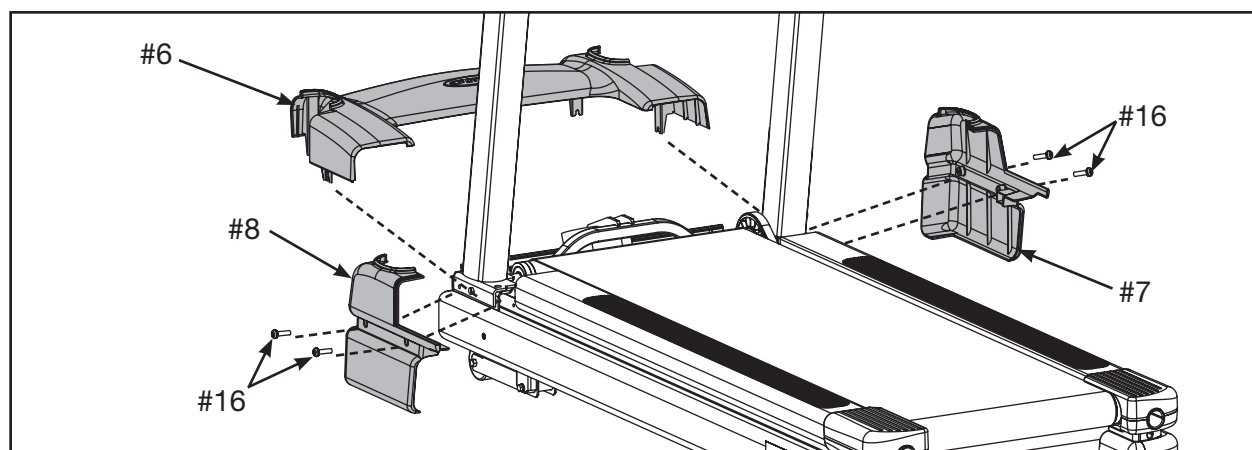

Figure 11
**B.** Place the motor cover center (#6) into position. See Figure 11.